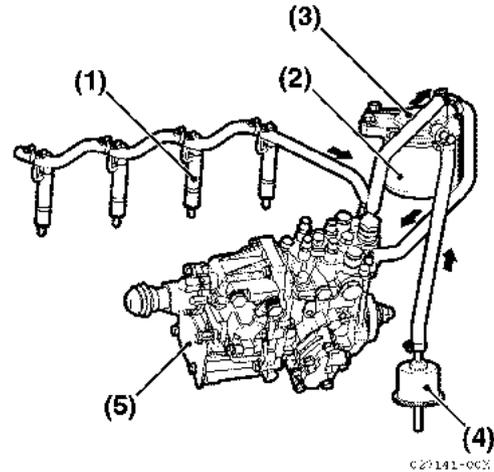

Figure 3-50
3. Turn the electric fuel feed pump (Figure 3-50, (4)) on to release air out of the fuel return line.